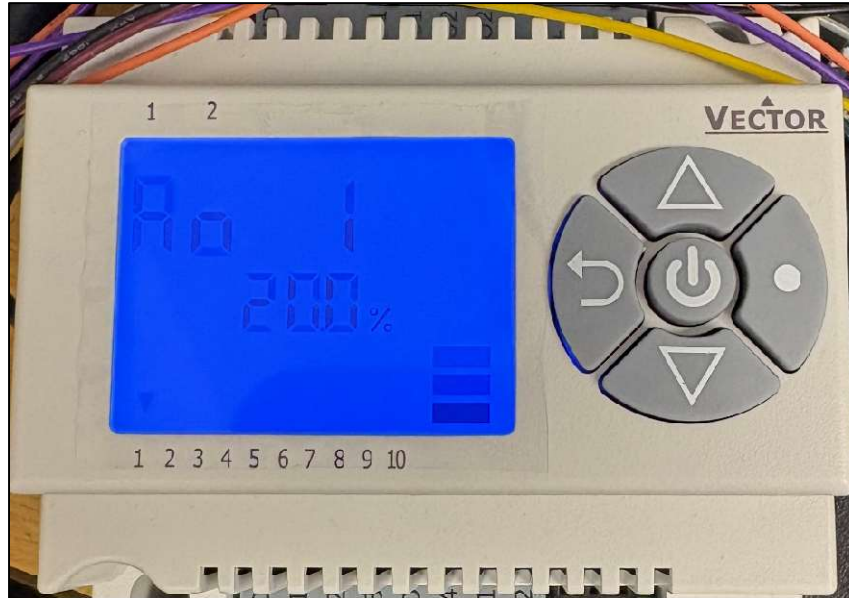

Figure 4. PXVC2 Manual Analog Output Screen
1. Change controller output to manual mode by changing parameters **1A 00** to **6** (MCV) or **1d 01** to **6** (PWV). The output can now be controlled via the arrows on the PXVC2. Navigate to the desired output by pressing the dot or arrow key. See Figure 4.